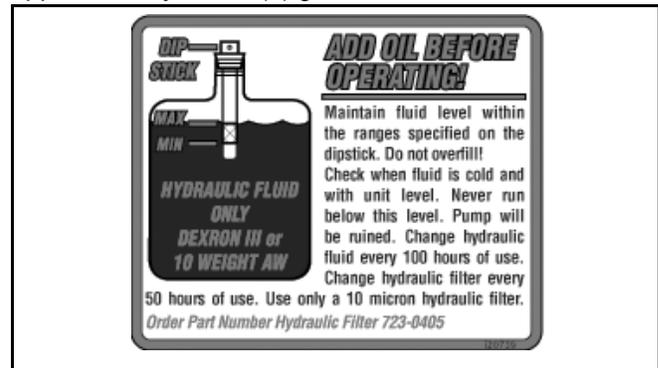

**Figure 11**
- Remove vented reservoir dipstick, which is located in front of the engine on top of the reservoir tank. See Figure 11.